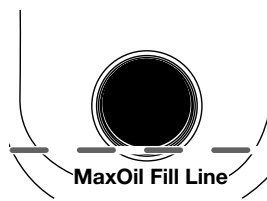

Fig. 40
5. Look into the oil fill hole, use a flashlight if needed. The oil should be just touching the inner most thread (Fig. 40).
6. If the oil level is not touching the inner most thread on the oil fill hole, add a small amount of oil to the oil fill hole and recheck (Fig. 40). Repeat this procedure until the oil level reaches the inner most thread on the oil fill hole.